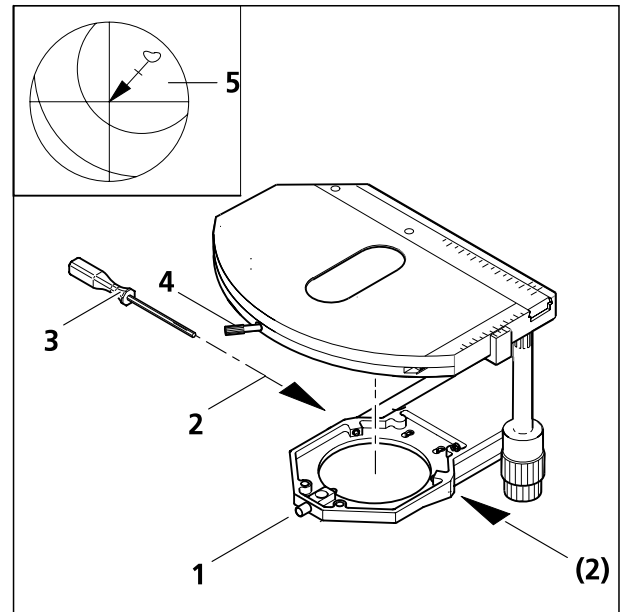

Fig. 3-12 Centering the rotatable mechanical stage
All stages are delivered precentered, i.e. when the stage is turned, the detail of the object in the focus remains in the center of the image. If the detail shifts out of the center when the stage is turned (Fig. 3-12/5), then it becomes necessary to recenter the stage.
- Loosen the clamping screws of the stage (Fig. 3-12/4) and the screw caps of the stage carriers (Fig. 3-12/1).
- Determine the maximal shift of the object (Fig. 3-12/5, arrow point) to the cross line in the eyepiece by turning the stage.
- Shift the object detail towards the center of the cross line by turning the two centering screws on the stage carrier (Fig. 3-12/2) each with an hexagon head screwdriver SW 1.5 (Fig. 3-12/3) half the length of the arrow. Repeat the procedure if the object detail shifts out of the center again when turning the stage.
- After finishing the centering procedure tighten the screw caps (Fig. 3-12/1) again.